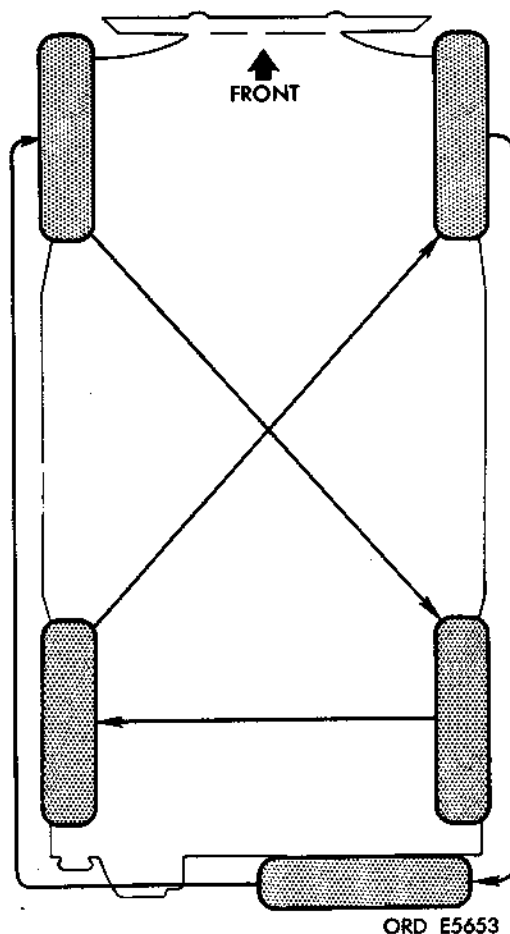

Figure 2-379. Tire rotation plan.
(1) Replace any tire with noticable cut on tread or side wall. Return tire to support maintenance unit for repair. If wear is uneven check toe-in adjustment (para 2-150). If incorrect toe-in is not the cause, report to support maintenance personnel.
(2) Check pressures when tires are cold. Dismount any tire showing unusual pressure loss and examine tire and tube for cause. Replace tube or tire as necessary.
(3) Inflate tires to pressure designated on vehicle data plate. Unequal pressures will affect steering and braking adversely. Underinflated tires are easily damaged. Install all valve caps to help prevent air loss.
c. *Tire Rotation.* To maintain equal wear, rotate tires in accordance with tire rotation plan shown in figure 2-379 at intervals of approximately 2000 miles.